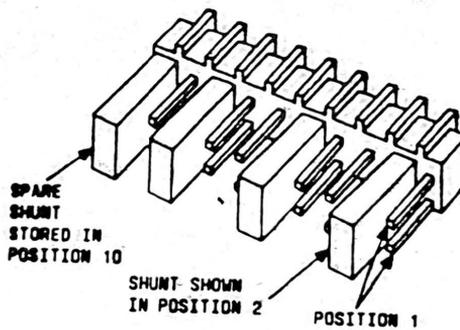

Fig. 2— Detail of Right Angle Header for Installing Options
**2.03** Figure 2 is a representation of H1 showing the ten positions and the shunts. To install options listed in Table A, the shunts are slipped over the two pins which make up one position. Four shunts are provided with the header. One shunt is a spare and should be stored in position 10.